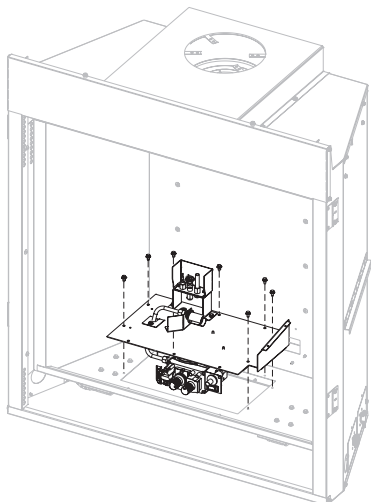

Figure 12
9. Remove seven screws and lift burner assembly. **See Figure 12.**